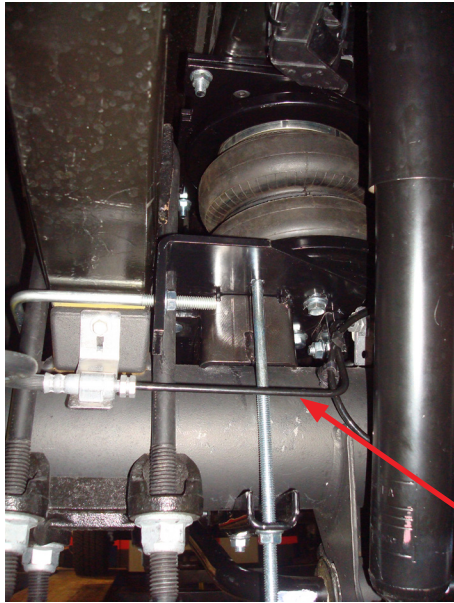
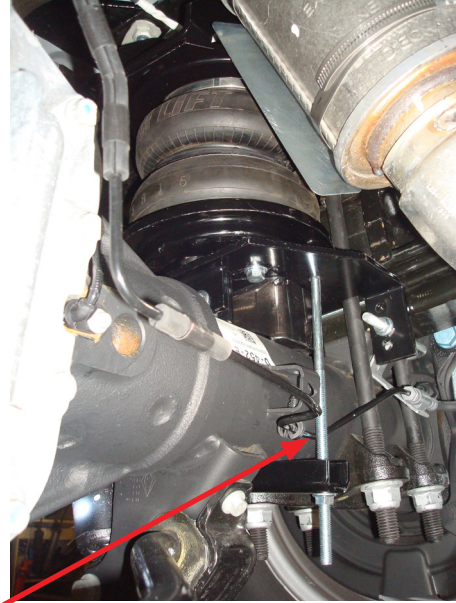

Fig. 36
Fig. 37
On the driver's (left) side, the long carriage bolt in the lower bracket will be between the hard brake line and axle (Fig. 36). On the passenger's (right) side, the carriage bolt will be on the back side of the brake line (Fig. 37).
12. Fig. 36 and Fig. 37 show the lower bracket installed (DRW application shown).